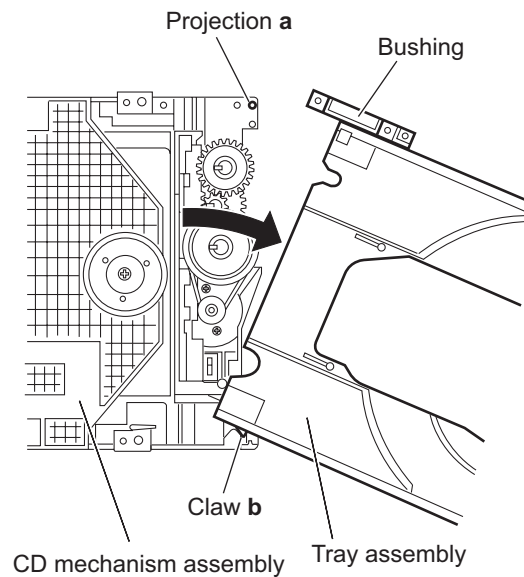

Fig.3
- (3) Remove the bushing of the tray assembly from the projection **a** on the CD mechanism assembly and move the tray assembly in the direction of the arrow. (See Fig.3)
- (4) Remove the claw **b** of the tray assembly from the CD mechanism assembly and take out the tray assembly. (See Fig.3)